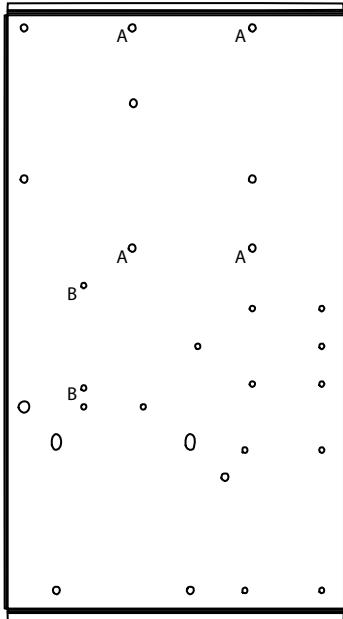

Fig 2, Combination Bracket.
- If the oven was built after 3/14/03 eliminate the bracket included with the kit. There is a bracket in the oven that will be used. This bracket replaces the separate ignition module bracket and relay board assembly bracket. As shown below in fig 2, insert the Nylon PCB Spacers into the four holes labeled "A" and attach the relay board. Use the #10 sheet metal screws to attach the transformer using the two holes labeled "B".
- If the oven was built after 3/14/03 eliminate the bracket included with the kit. There is a bracket in the oven that will be used. This bracket is replaces the separate ignition module bracket and relay board assembly bracket. As shown above in fig 2, insert the Nylon PCB Spacers into the four holes labeled "A" and attach the relay board. Use the #10 sheet metal screws to attach the transformer using the two holes labeled "B."